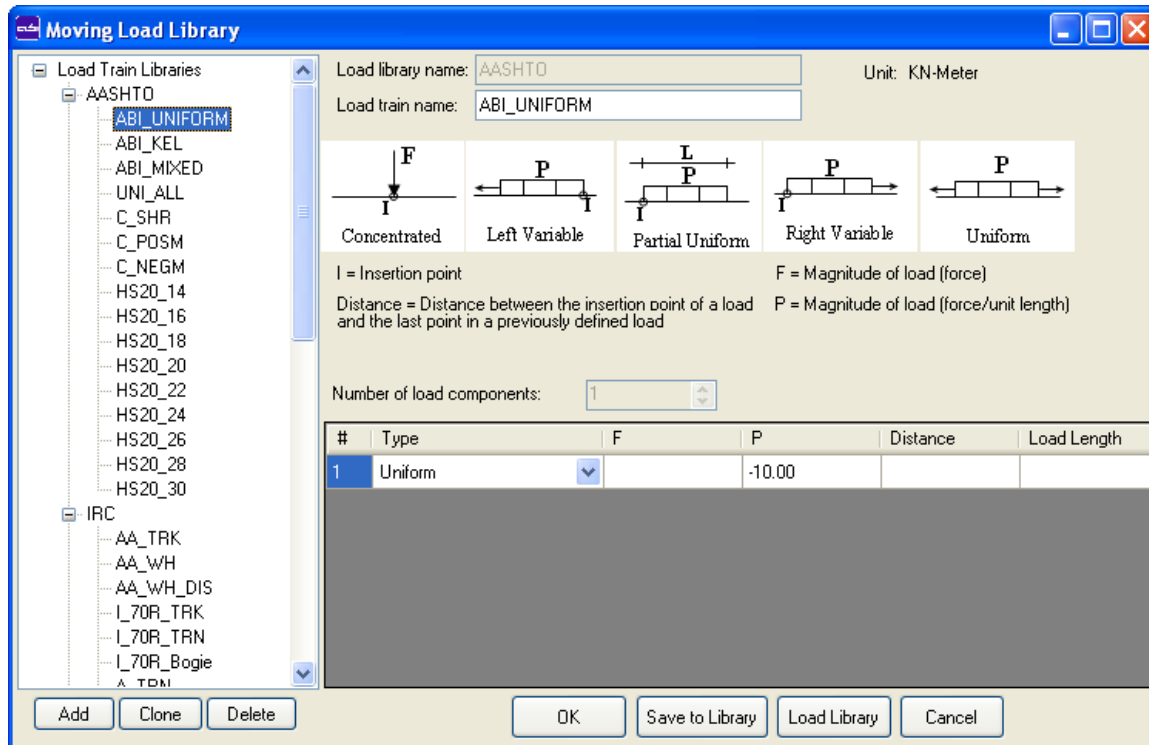

FIGURE 1.8-15 LOAD TRAIN LIBRARY DIALOG WINDOW
**Moving Load Library.** When you select this menu item the program opens the Load Train Library dialog window (**Fig.1.8-15**). This window contains the names and definitions of all AASHTO, IRC and BS 5400 moving load trains. Alternatively, you can create new load trains from the available load types shown in **Figure 1.8-15**.